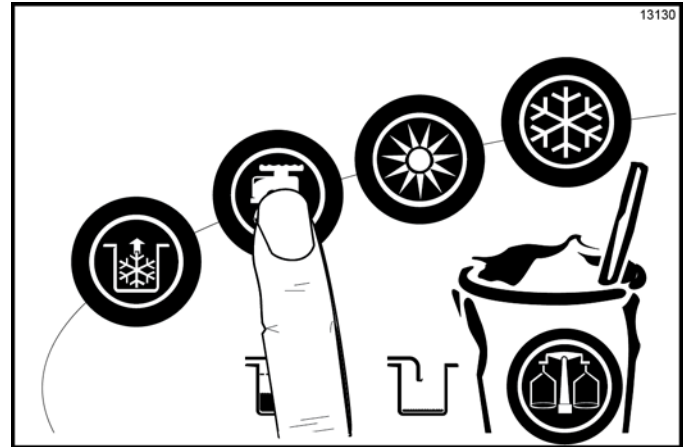

Figure 6-117
2. With a pail beneath the door spout, press the Wash  key. (See Figure 6-117.)